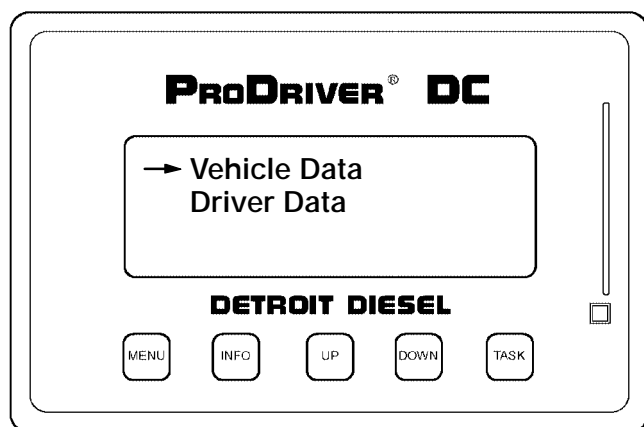

Figure 5-3 Vehicle and Driver Data Screen
- Vehicle Data,  (see Figure 5-3).